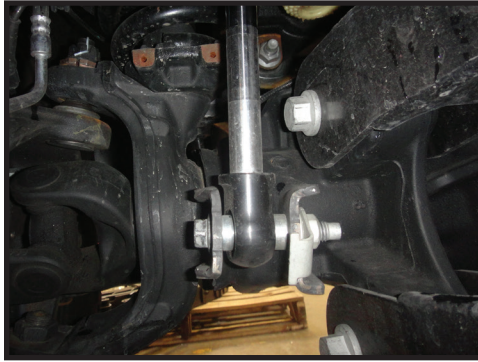

FIG.1
4. Install the lower shock mount: Install the wide heim spacer so that it orients the shock further away from the frame. Install the factory lower bolt using an 18mm socket/wrench. [Torque to factory spec] **[FIGURE 1]**